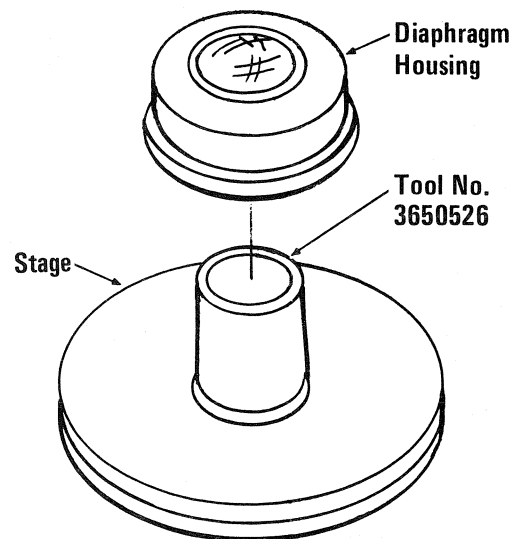

FIG. 6-11
- b) Assemble Tool No. 3650526 to the stage, screwing it to the bottom of the threads and against the shoulder of the tool. Fig. 6-11.